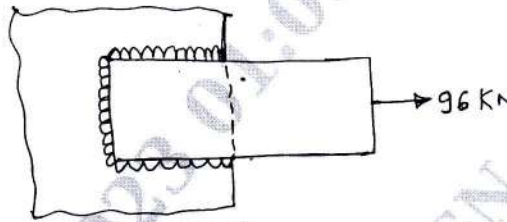

Fig.Q8(a)
- 8 a. A 80mm wide 12mm thick plate carrying an axial load of 96kN is welded to a support as shown in Fig.Q8(a). The allowable tensile and shear stress in the weld are 100MPa and 70MPa respectively. Find the length of each parallel fillet weld, for static : loading ad dynamic loading cases.